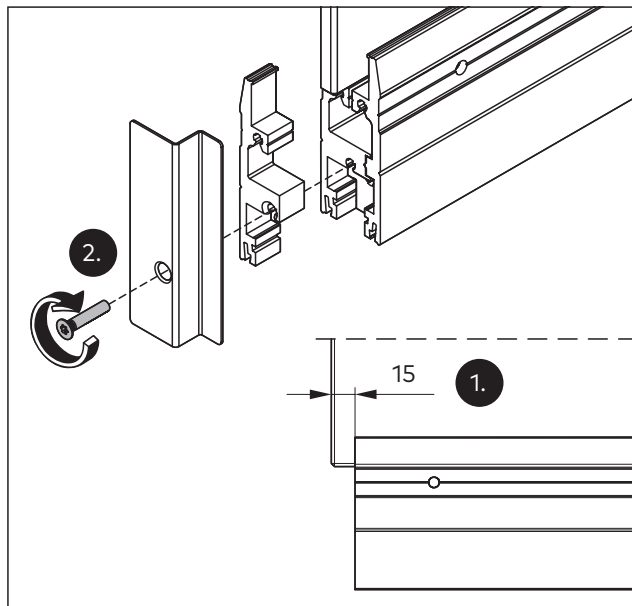

Fig. 42 Mounting the adapter piece and end cover
1. Check the glass bite (Fig. 42/1) and re-adjust if necessary.
2. Use the screw to screw the adapter piece and the angled end cover on the door rail (Fig. 42/2).